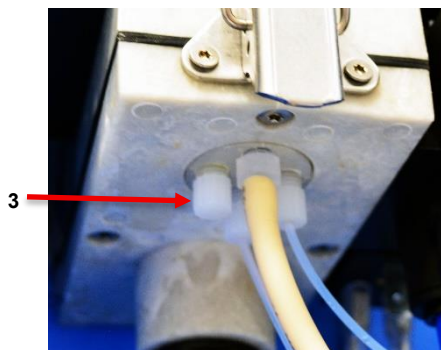

Figure 2
7. Remove the cap from the free hose inlet (3) of the measuring chamber. (Figure 2)